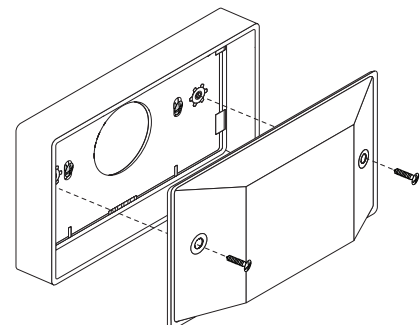

Figure 2: Screw Locations
4. After wiring and addressing the module, attach the housing top to the mounted base with the housing fastener screws. Refer to Figure 2.